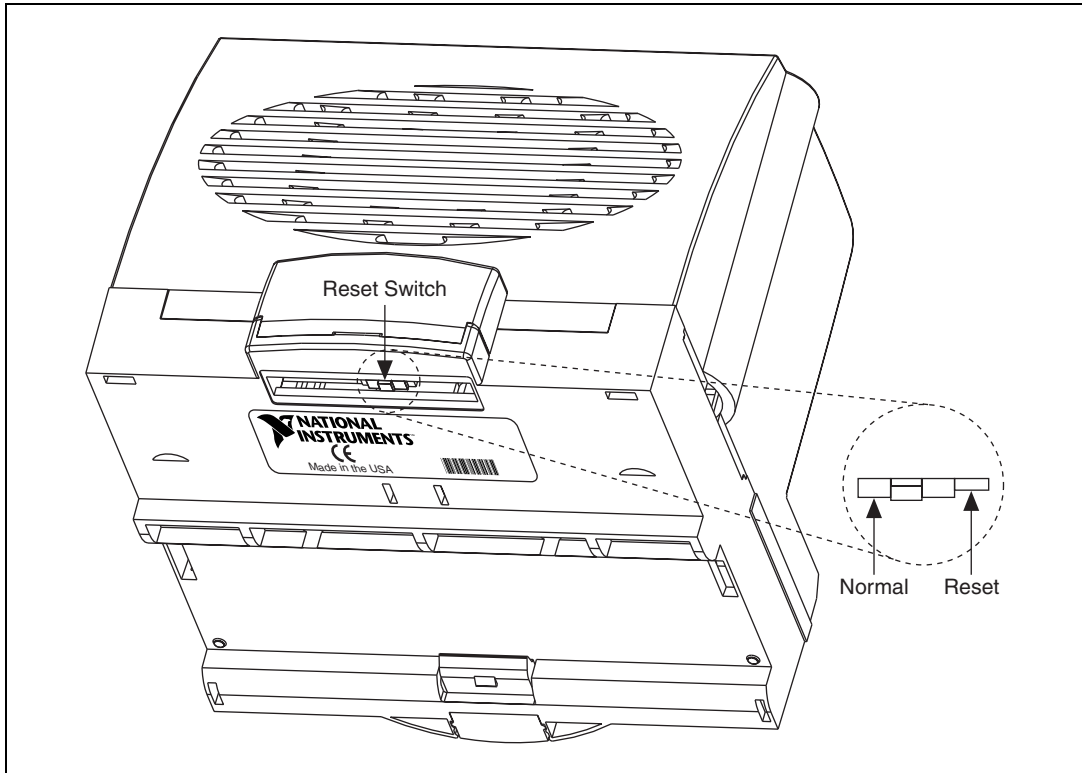

Figure A-1. FBUS-HSE/H1 LD Reset Switch
2. Locate the slot on the bottom of the FBUS-HSE/H1 LD just above the label. Inside the slot, find the red reset switch, shown in Figure A-1.
3. Looking at the FBUS-HSE/H1 LD so that the label is upright, as shown in Figure A-1, use a pen or a small screwdriver to move the Reset switch to the right.
Note There are three switches on the FBUS-HSE/H1 LD. The Reset switch is at the right in Figure A-1. The other two switches are reserved for future use. You should *not* change the Reset Switch unless you want to reset the device.